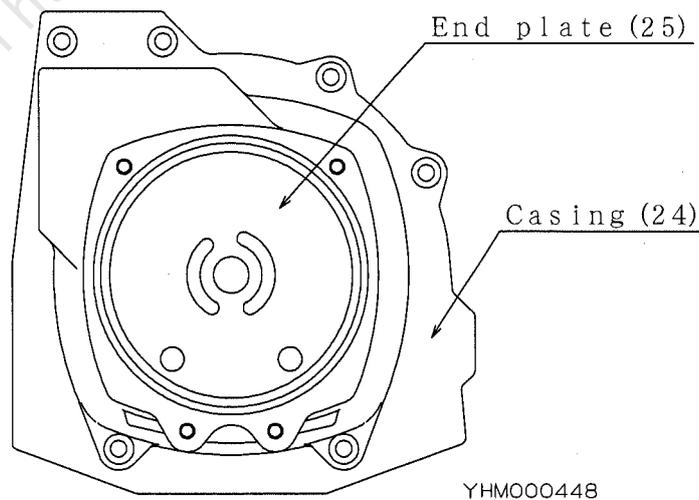

Fig. 6
- ② Pass Link chain through Chain guide (22) with care it has not been twisted.
- ① Apply grease to O-ring (31) (35), the grooves of Brake piston (34) and Brake cylinder (30) a little, then install O-rings (31) (35). Install Brake cone (33) and Brake piston (34) in Brake cylinder (30).
- ② Degrease the threaded holes of End plate (25) and Cap screws (37) using solvent e.g, Trichloroethylene.
- ③ Install Steel balls (28) and Set plate (29) to End plate (25). The oval holes of Set plate (29) should meet Steel balls (28).
- ④ Install Springs (32) in brake cylinder (30), and install them to End plate (25). Apply adhesive to Cap screws (37) and tighten them sequentially by 1/6 turns. Use Loctite 222 or equivalents for adhesive.
- ⑤ Install End plate (25) into Casing (24). Assembling direction differs depending on the models. See fig.6.